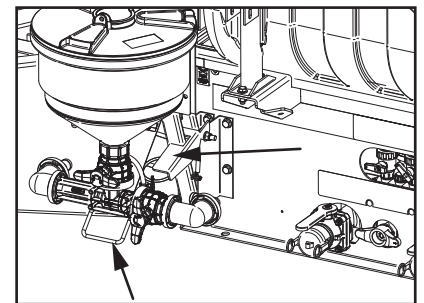

Figure 35
- Hold the handle and press the lever in the back to unlock it. **(figure 35)**